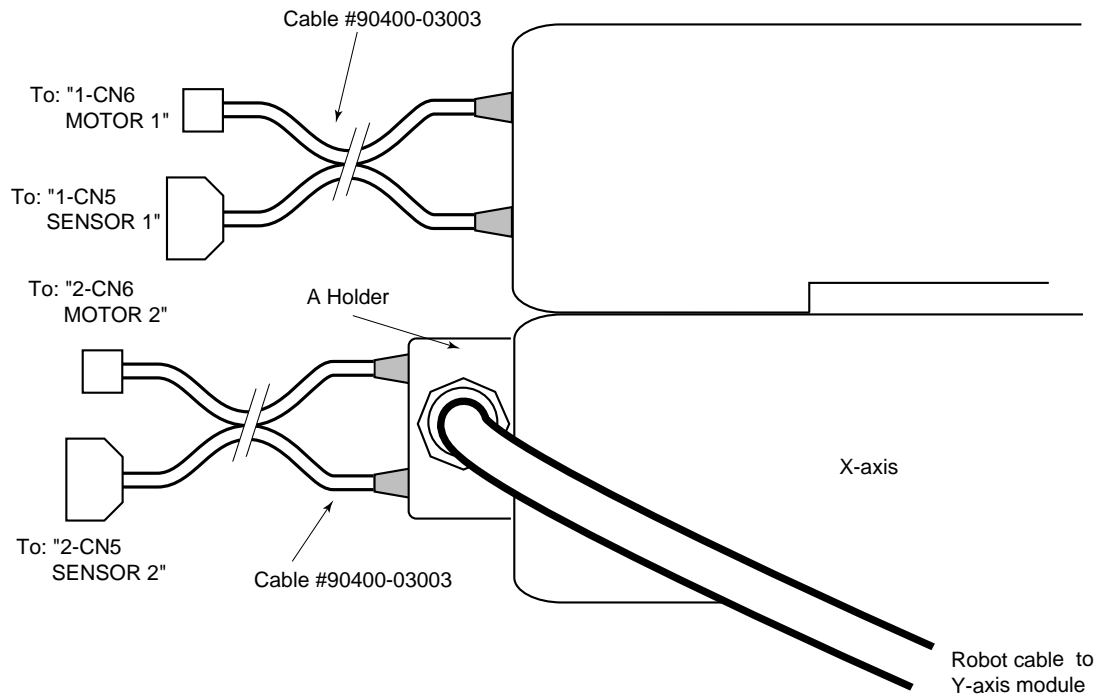

Figure 4-24. Connecting to an EXA or EXC Controller
- b. Attach the A holder end of the robot cable to the small mounting plate of the X-axis module as shown in Figure 4-24 (refer to Section 4.3 for holder mounting).
- d. Connect the two barrel ends of the cable to the Y-axis module as shown in Figure 4-24. These connectors have different pins sizes and cannot be installed incorrectly. The other ends connect to the controller connections marked “2-CN6 MOTOR 2” and “2-CN5 SENSOR 2”.